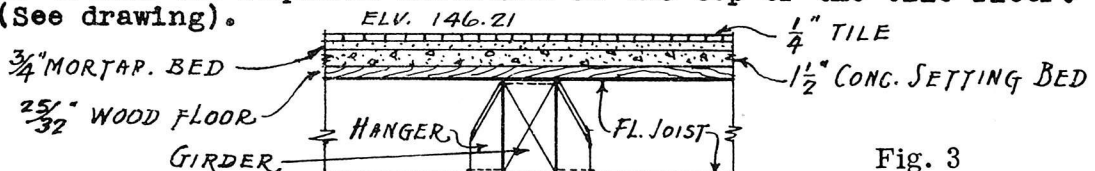

Fig. 3
8. At what elevation must the concrete setting bed, Figure 3, be laid to obtain the required elevation at the top of the tile floor. (See drawing).
9. Figure the elevation for the top of the $\frac{25}{32}$ " wood floor in Fig. 3.
10. What is the elevation at the top of the girder in Figure 3?